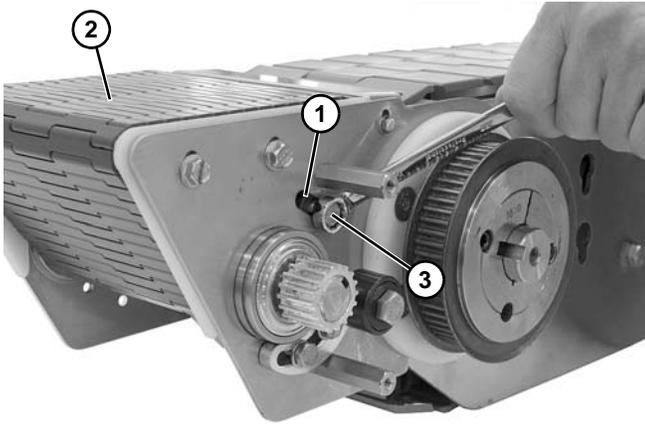

Figure 77
- Slide assembly within slot (**Figure 77, item 1**) to remove excess slack from belt (**Figure 77, item 2**).
- Tighten hex head screws (**Figure 77, item 3**) on both sides to keep tension on belt (**Figure 77, item 2**).